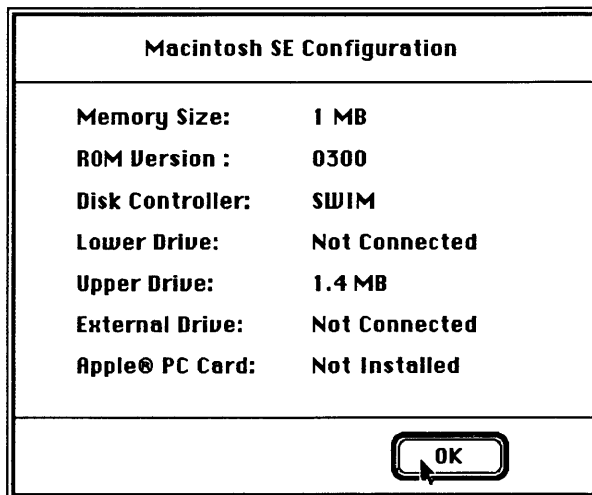
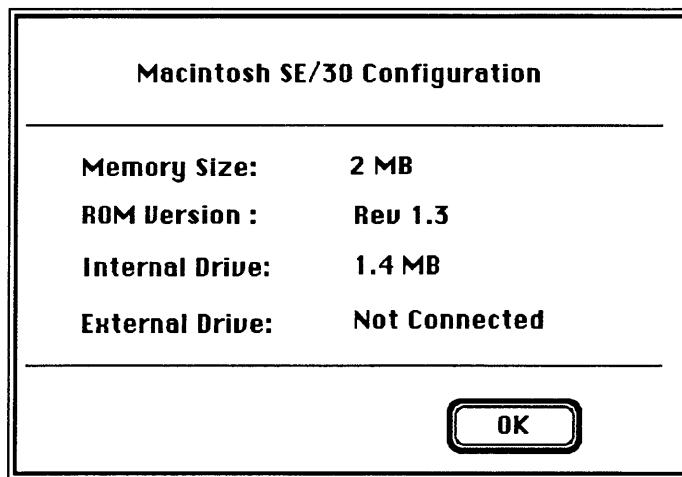

FIGURE 4
FIGURE 5
2. **Configuration:** When **Configuration** is selected, *MacTest SE* displays the window shown in Figure 4, and *MacTest SE/30* displays the window shown in Figure 5.